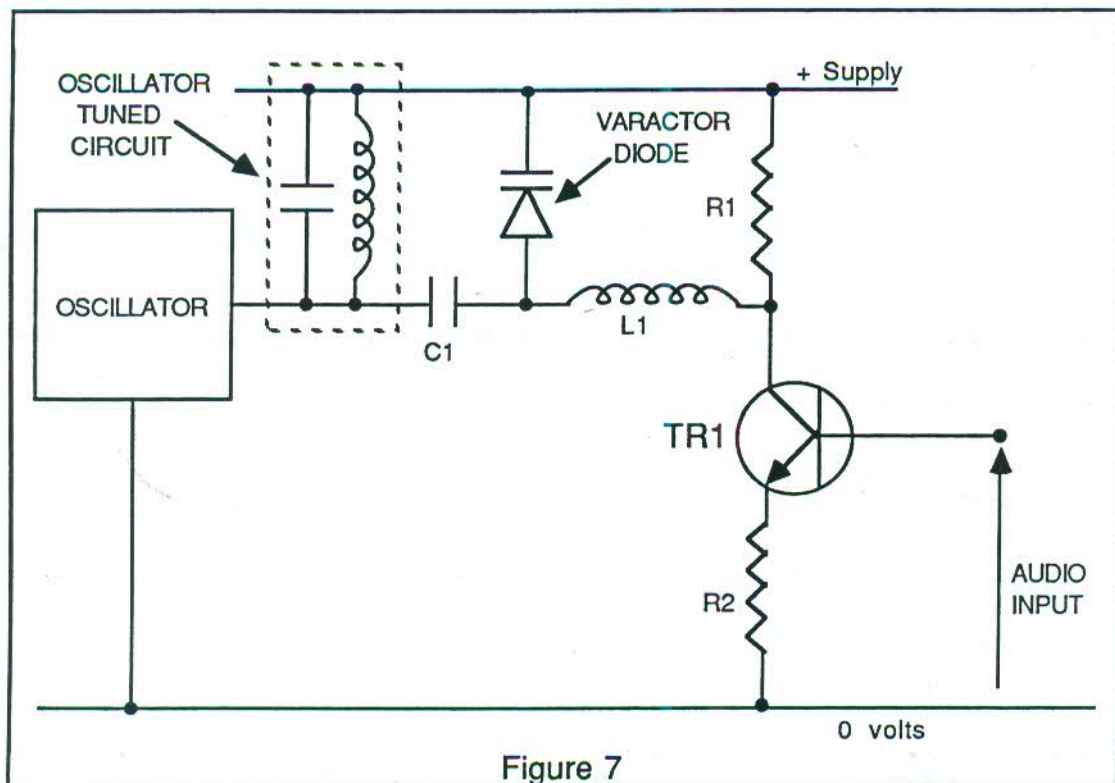

Figure 7
11. The principle of operation of the VARACTOR MODULATOR is shown in Figure 7 below: